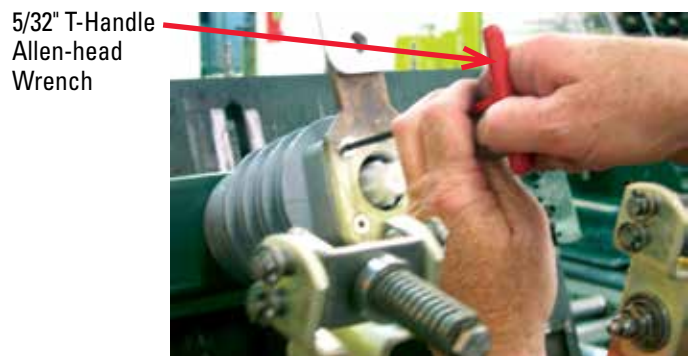

Figure 3. Remove and retain screws that attach main contact to pump insulator. Note that Loctite secures screws in place.
- c. Remove and retain the four (4) flat, Allen-head screws that secure the main contact to the pump insulator. See Figure 3.